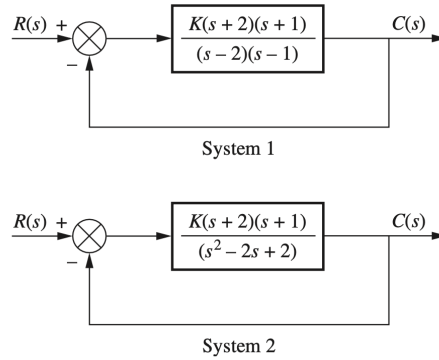

FIGURE P8.6
9. For each system shown in Figure P8.6, make an accurate plot of the root locus and find the following: